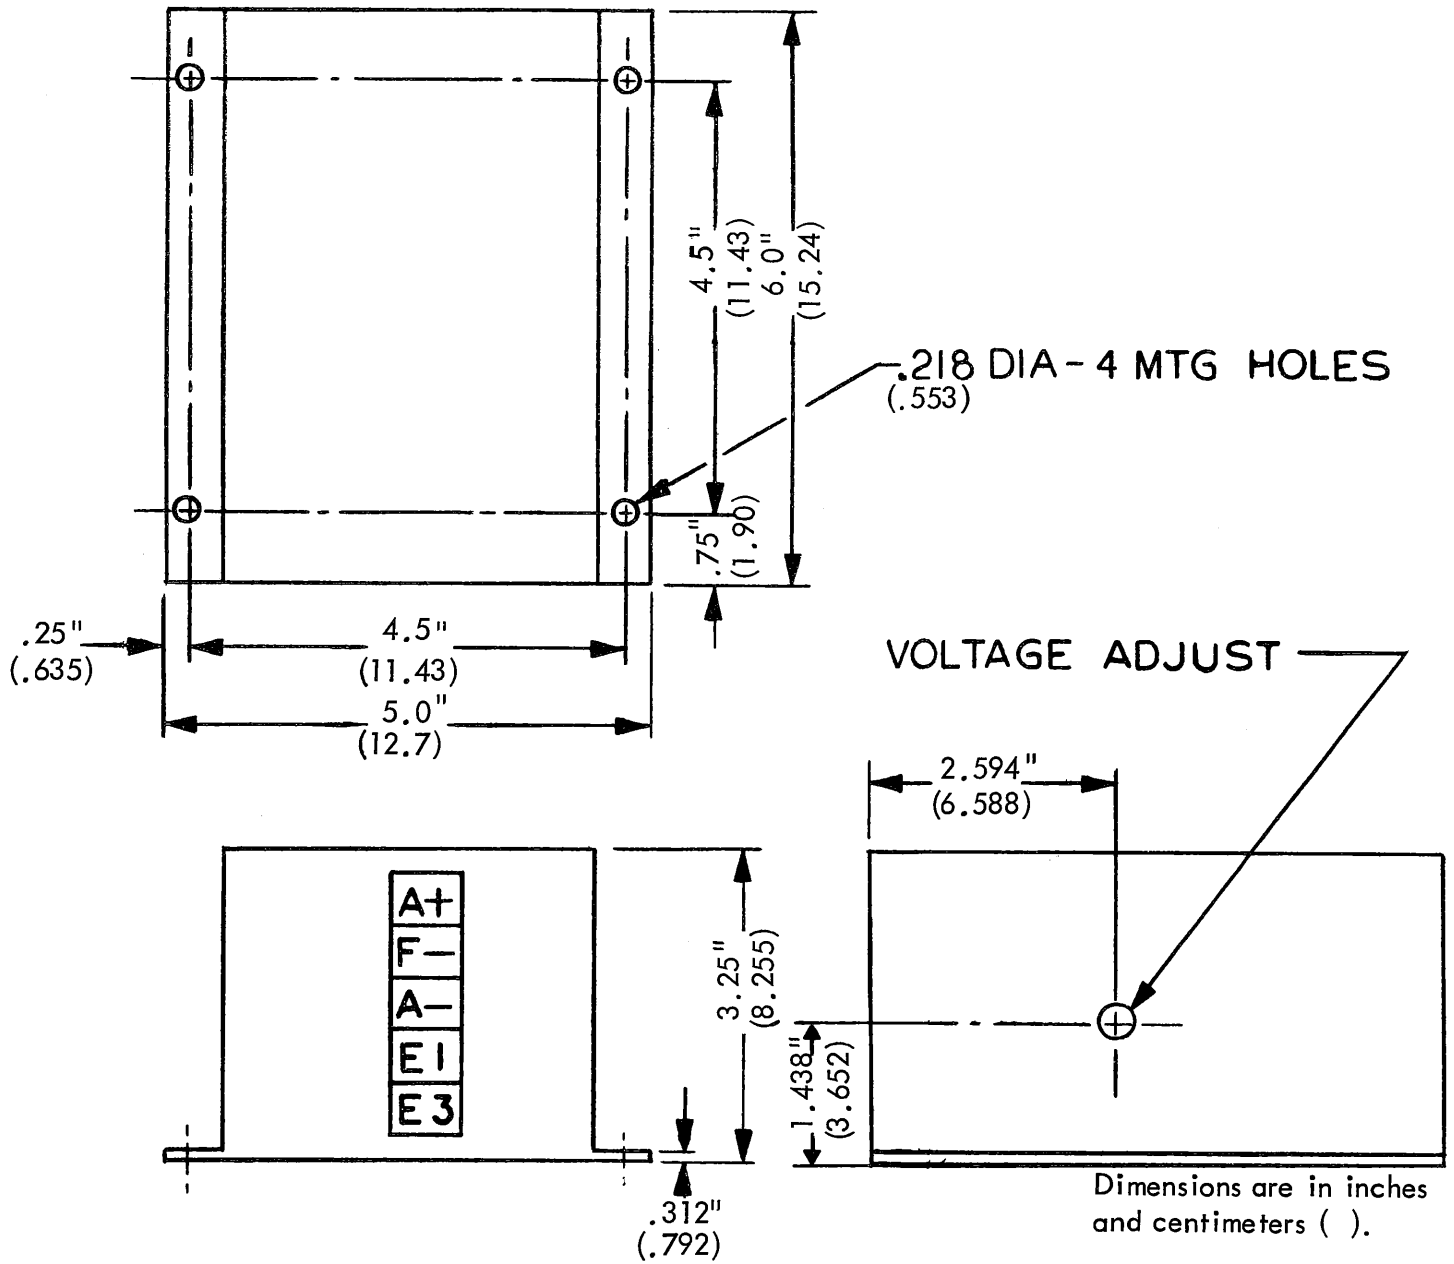

FIGURE 2 - OUTLINE DRAWING
2.2.1 A free convection flow of cooling air must be allowed to circulate through the unit. The unit should not be mounted near other heat generating equipment or mounted inside totally enclosed switchgears without ducts to outside cooling air. The regulator can be mounted in any position without affecting its regulating characteristics. The dimensions of the regulator are shown in Figure 2. To obtain maximum cooling, insure the open ends of the regulator are vertical when mounted.